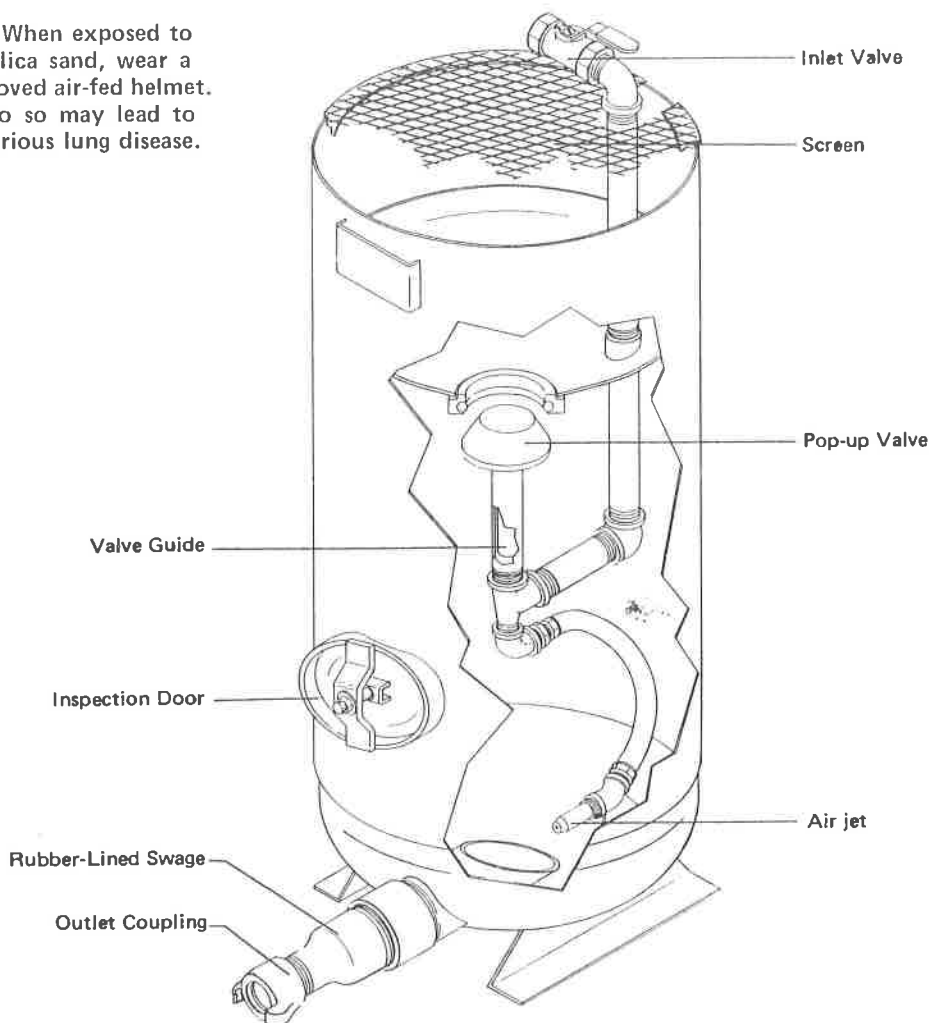

Figure 1
1.1 General Description. Clemco's Pneumatic Abrasive Conveyor (PAC) moves abrasive by means of compressed air. Air entering the unit through the inlet valve (figure 1) causes the pop-up valve to seat and the vessel pressurizes. An air jet at the bottom of the unit entrains abrasive and forces it out through the rubber-lined swage into the abrasive hose, which carries it to its destination.
3.1 **Replacing the Pop-up Valve.** To gain access to the pop-up valve, remove the inspection door assembly. Using a small pipe wrench, unscrew the pop-up valve guide (figure 1) by turning it counter-clockwise. Remove the pop-up valve and guide from the machine, install the new pop-up valve, and then screw the valve guide (with the pop-up valve in it) back into position inside the machine. Put a new gasket on the inspection door assembly before bolting the door back onto the machine. After tightening the bolts, test for leaks.